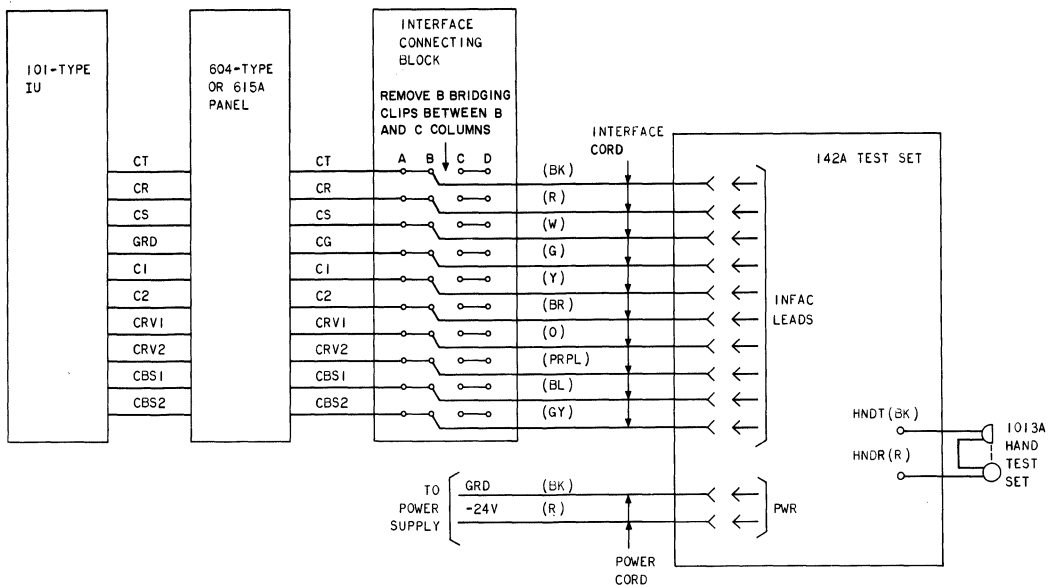

Fig. 19—Connections for Testing 101-Type IU With 142A Test Set
B. Using 142A Test Set (Fig. 19)